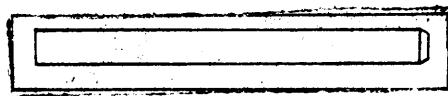
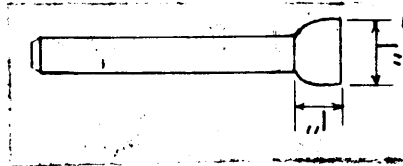

Figure 5.
Figure 7.
4. When the head is upset to  $1"$  (Figure 7) it should then be re-heated and placed in the heading tool and worked. (Figure 5). Place